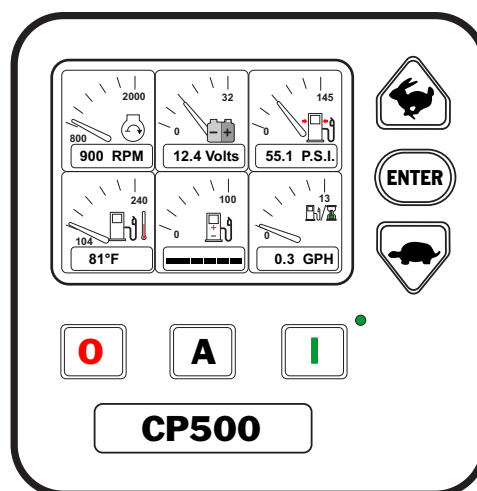

Figure 14. Engine Status 1 (Engine Running)
4. Once the engine has started, verify that the engine status data is displayed as shown in Figure 14.